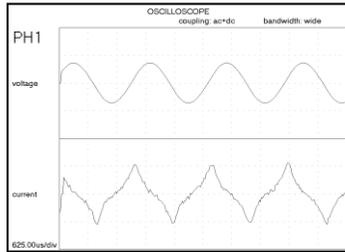
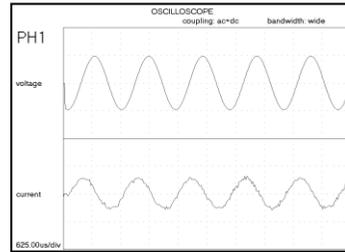

Fig 1 (Distorted current waveform)
Fig 2 (Correct current waveform)
*Note: The amplifier contains an output rms current protection circuit, and when driving some capacitive loads this circuit may be activated. Due to capacitor construction, at high current the amount of energy transfer distorts the current waveform resulting in excessive peak current (Fig 1 next page), whilst the rms value remains within specification. To ensure correct functionality and prevent false triggering of the protection circuit, ideally the current waveform should be a sinewave as pictured in (Fig.2 next page).*